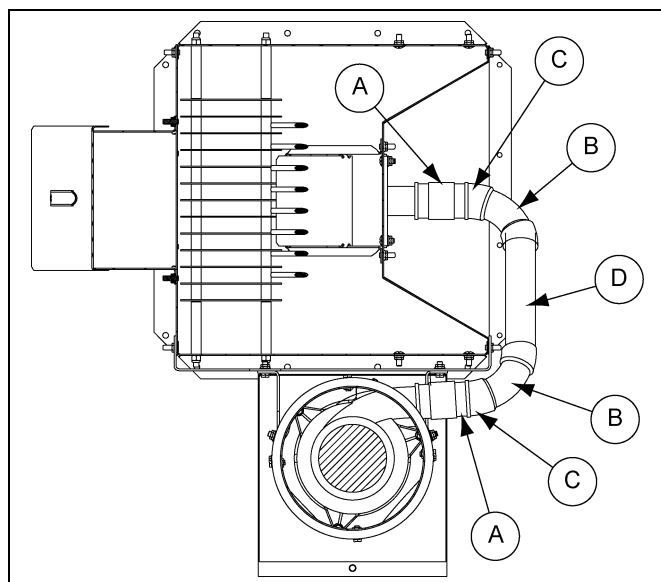

Figure 2E
1. Install the flexible pipe coupler (A) to the blower and to the blower moisture tube weldment (GT4-1532).
2. Connect a black ABS pipe (C) to the end of each of the flexible pipe couplers (A).
3. Connect a flexible pipe elbow (B) to the end of each of the black ABS pipe (C).
4. Install the black ABS pipe (D) between the flexible pipe elbows (B).
5. Fasten all hose connections using a hose clamps (AP-0583). *(See Figure 2E.)*